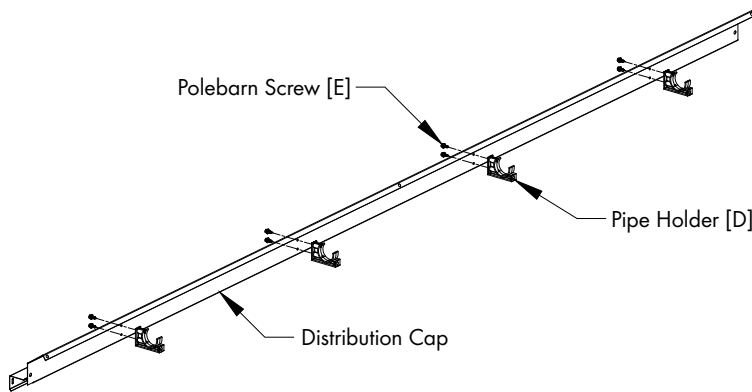

Figure 7A
Locate the Distribution Cap and the plastic Pipe Holder. Fasten (4) Pipe Holders [D] to each Distribution Cap using (2) Polebarn Screws [E]. See Figure 7A and 7B. Make sure all the Pipe Holders are installed in the same direction.